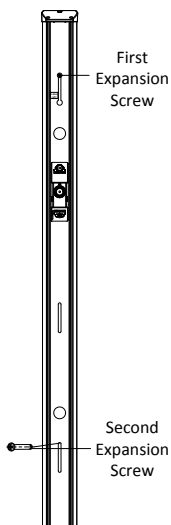

Figure 2-17 Secure Base on Wall
8. Install the second expansion screw. Tighten the first expansion screw. See Figure 2-17.